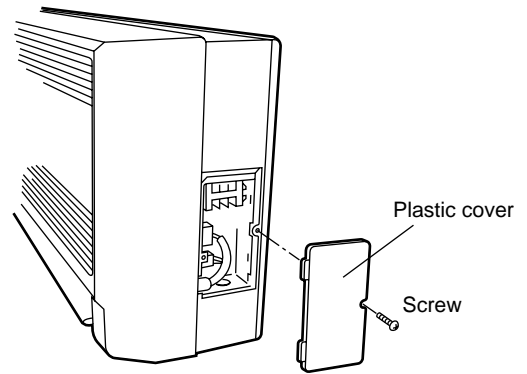

Fig. 3-31
- (1) Remove the plastic cover. (Fig. 3-31)